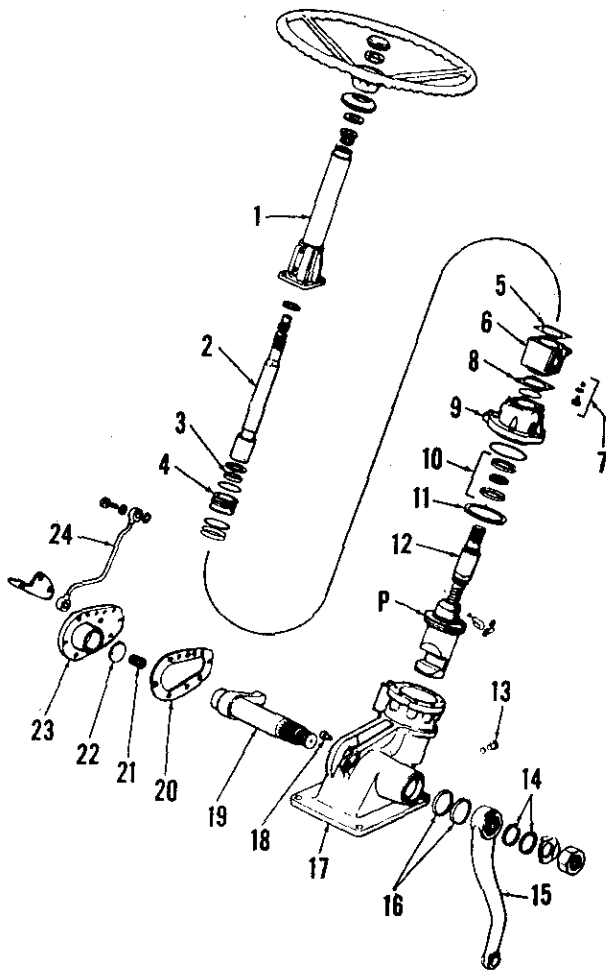
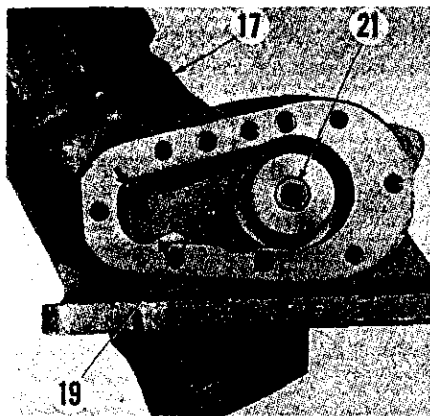

Fig. 27—Exploded view of late power assist steering gear.
Fig. 28—Rocker shaft can be withdrawn when arm is centered in housing opening as shown. Refer to Fig. 27 for parts identification.
34. Late power steering models use the integral power assist unit shown schematically in Fig. 26 and exploded in Fig. 27. A piston is built into the shaft ball nut and a cylinder machined into the gearcase housing; and the entire case unit is pressurized by the steering oil. Control is by means of a rotary valve which is built into piston and ball nut unit (12) and is not available separately. The pressure passage to top of piston (P) is internal while lower end is pressurized by external flow through pressure tube (24). The piston and ball nut moves upward for a right-hand turn. Manual operation of steering gear is made possible by a check ball (7) located in valve housing which recirculates oil within gear housing when pump is inoperative.
Fig. 26—Schematic view of late power steering gear unit used on some models. Steering cylinder is built on ball nut and gear unit is pressurized. Refer to Fig. 27 for exploded view.
36. **OVERHAUL.** Before disassembling the removed steering gear, temporarily reinstall steering wheel and disconnect external oil feed pipe (24—Fig. 27). Turn steering wheel from lock to lock several times until as much fluid as possible is pumped from housing.
Remove steering arm (15) using Special Tool 1001 or other suitable puller. Remove side cover (23), gasket (20), and rocker shaft end float shim (22). Turn steering shaft until rocker shaft arm is centered in housing opening as shown in Fig. 28, then withdraw rocker shaft.
Remove the four stud nuts securing steering column (1—Fig. 27) and lift off the column and shaft (2). Remove and save shim pack (5). Install the oil seal protector sleeve (Tool SW 23/1) over steering shaft spline as shown in Fig. 29, gently tap valve housing (6) away from bearing housing (9) and lift off valve housing, saving bearing adjustment shims (8) as valve housing is removed.
Remove cap screws retaining bearing housing (9—Fig. 27); then, turning splined end of steering shaft counter-clockwise, force bearing housing (9) and bearing (10) up and out of ball nut and main gear housing. Shaft bearing (10) contains fifteen 5/16-inch diameter loose steel balls which are free to fall as the parts are
Assemble the steering gear as follows: Install piston rings (11—Fig. 30), if removed, and rotate rings until end gaps are 180° apart. Align groove (G) with locating pin (13) and carefully install piston using a suitable ring compressor. Position ball nut assembly so that rocker shaft arm slot is aligned with main housing side opening (Fig. 28) and install rocker shaft with spring (21) removed. Temporarily install main housing side cover (23—Fig. 27), using a new gasket (20) but omitting end float shim (22) at this time. Install and tighten side cover retaining cap screws (35-45 Ft.-Lbs.); then using a dial indicator, measure and record rocker shaft end float. Remove side cover then reassemble, installing spring (21) and an end float shim (22) which most nearly equals measured end float minus 0.008. Shims (22) are available in thicknesses of 0.050,
Install bearing housing (9—Fig. 27) and tighten retaining cap screws to a torque of 15-20 Ft.-Lbs. Slide lower race of bearing (10) into bearing housing bore, grooved side up, then install the 15 steel balls in bearing groove using clean grease.
Position Oil Seal Protector Sleeve (SW 23/1) over shaft splines as shown in Fig. 33; then, omitting bearing adjusting shim pack (8—Fig. 27), install control valve housing. Tap housing lightly into place until it bottoms and, using a feeler gage, measure the clearance between bearing housing and valve housing as shown in Fig. 33. Install a shim pack (8—Fig. 27) equal to the measured clearance minus 0.003. Shims (8) are available in thicknesses of 0.004, 0.005, 0.010 and 0.025. Shim pack must be accurate to within 0.0015. Shim pack (8) controls preload of worm gear bearing (10).
With bearing pre-load correctly adjusted, assemble and install steering column, upper steering shaft and bearing washer. Omit shim pack (5) on trial assembly. Make sure steering column is bottomed on steering shaft splines; then measure clearance between steering column flange and valve housing as shown in Fig. 34. Install shim pack (5—Fig. 27) equal to the measured clearance PLUS 0.005. Shim (5) is available in 0.005 thickness only. Tighten steering column stud nuts to a torque of 25-30 Ft.-Lbs. Complete the assembly by reversing the disassembly procedure. Tighten ex-